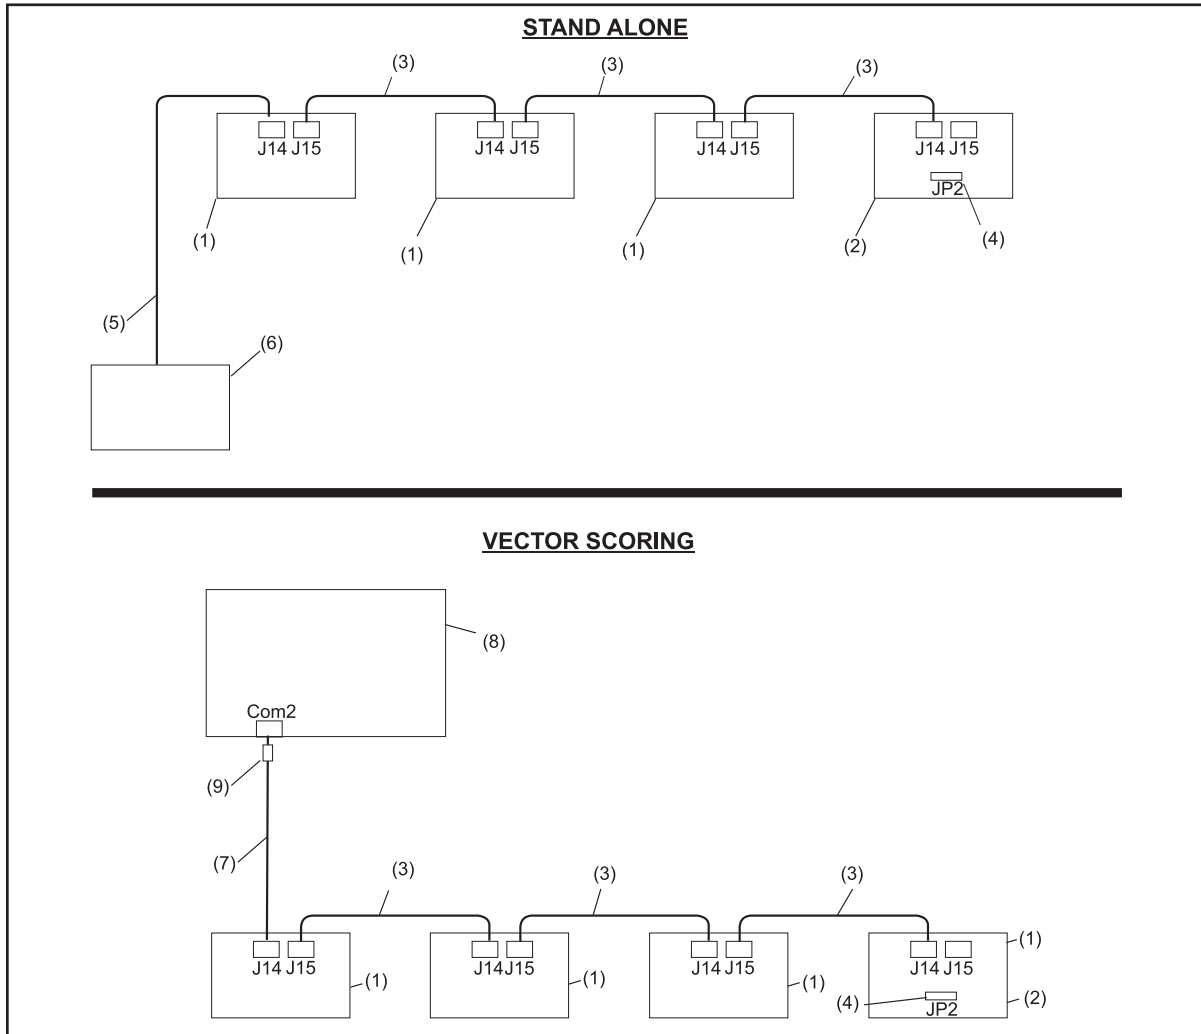
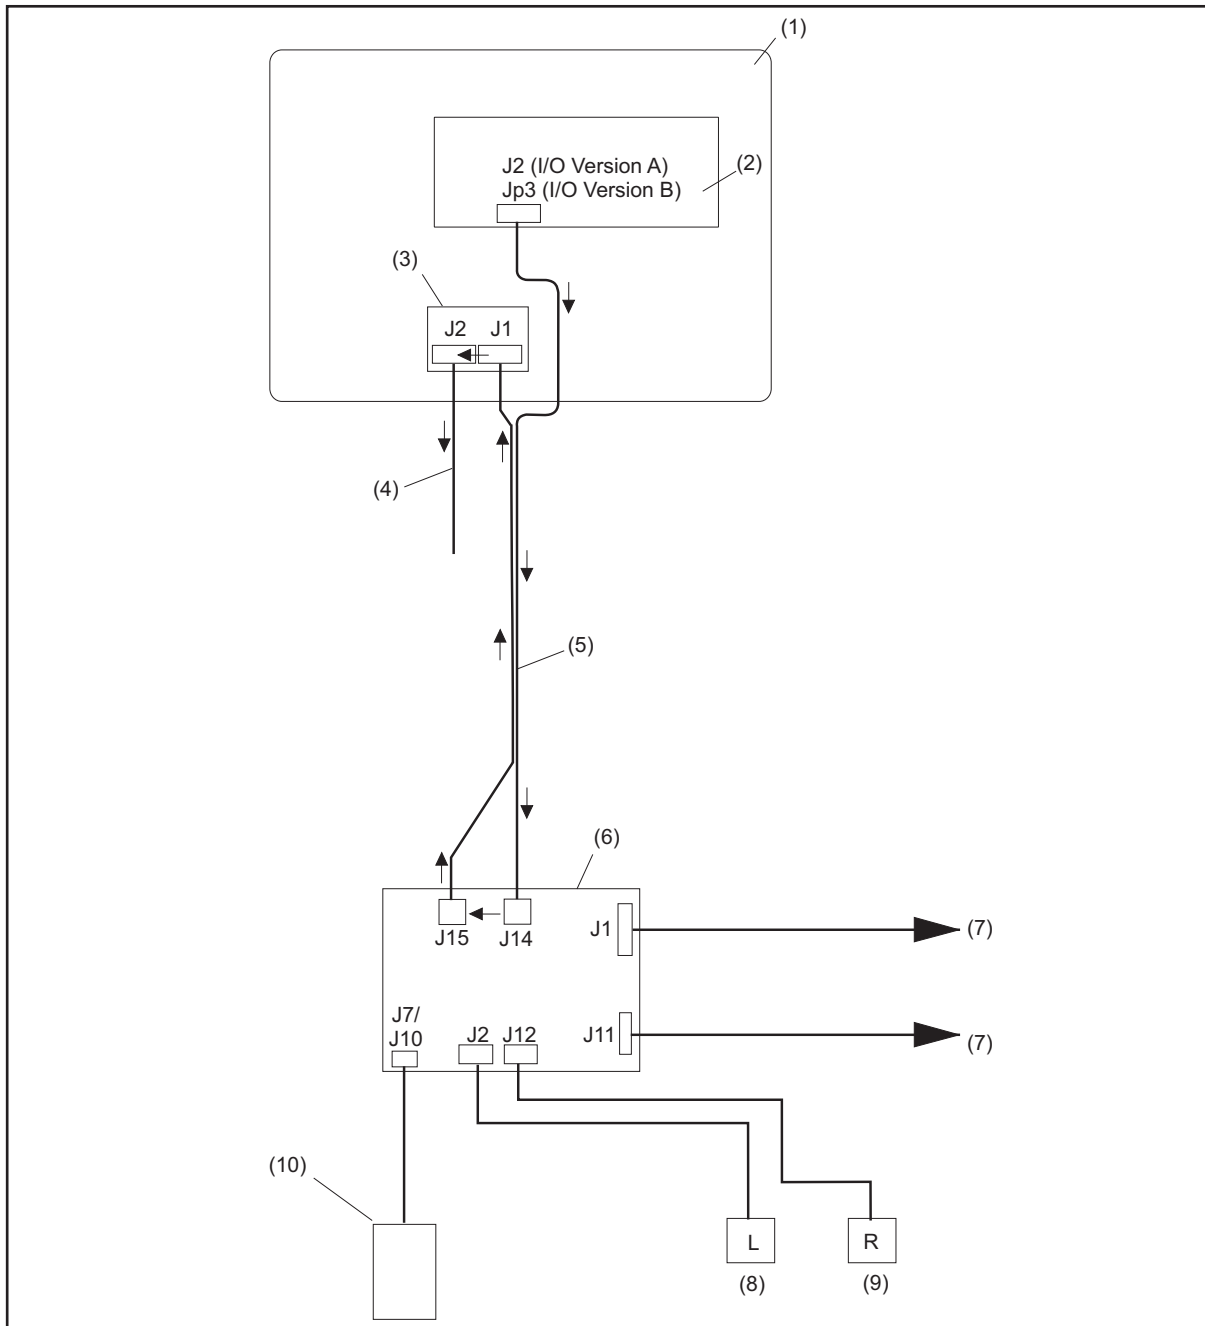

Figure 6. Daisy Chain Cabling for Stand-Alone Systems and Vector Scoring
Figure 7. Frameworkx Cable Routing and Connections
For the first lane pair in a Stand-Alone configuration, this information comes from the System Controller located at the control desk. Refer to *Figure 6*. For additional lane pairs in a Stand-Alone system, the cable attached to this terminal comes from the prior lane pair bumper controller. Refer to (15) *J15 Communications Out*.
In Vector scoring systems, each scorer computer can control up to 8 lanes of bumpers. The communication originates at the Com2 port on the Scorer Computer and connects to J14 at the first lane pair that the computer controls. For additional lane pairs, the cable attached to J14 comes from the prior lane pair bumper controller. Refer to *Figure 6*.
For installations with Frameworkx scorers, the input data to J14 originates from the I/O PCB - J2. Refer to *Figure 7*.
- (1) PERIPHERAL CONTROLLER (2) AUTOMATED BUMPER CONTROLLER (3) BUMPER CONTROLLER CABLE (57-501384-000)
(4) JUMPER ON PINS 2 & 3 OF JP2
- (15) **Communication Out (J15)** - This connection allows the communication entering the PCB at J14 to continue out of the PCB. Refer to *Figure 6* and *Figure 7*. When the communication signal is not needed by additional devices (J15 not used), a jumper (terminator) must be installed on pins 2 and 3 (T) of JP2. Refer to *Figure 5*.
- (16) **Mechanic Up (J13)** - Connection for the mechanic’s emergency up push-button.
- (17) **Left Motor Switches (J12)** - Connection for the bumper up limit switch, bumper down limit switch and the auto emergency up switch for the left lane.
- (18) **Left Lane Motor (J11)**- Connector used to supply voltage to the left (odd) lane actuator motor.
- (19) **Left Lane Bumper LEDs (D37, D38, D39)** - These LEDs light to indicate that the status of the left lane bumper. LED “D37” indicates the emergency up switch has been used to raise the bumpers. LED “D38” indicates the bumpers are in the UP position. LED “D39” indicates the bumpers are in the DOWN position.
- (20) **Left Lane Motor LEDs (D29, D30)** - These LEDs light to indicate that the left lane motor is running. LED “D30” indicates the motor is lowering the bumpers and LED “D29” indicates the motor is raising the bumpers.
- (21) **Motor Fuses(F3,F4)** - Fuses for the actuator motors. The ratings for these fuses are determined by the input voltage to the board.